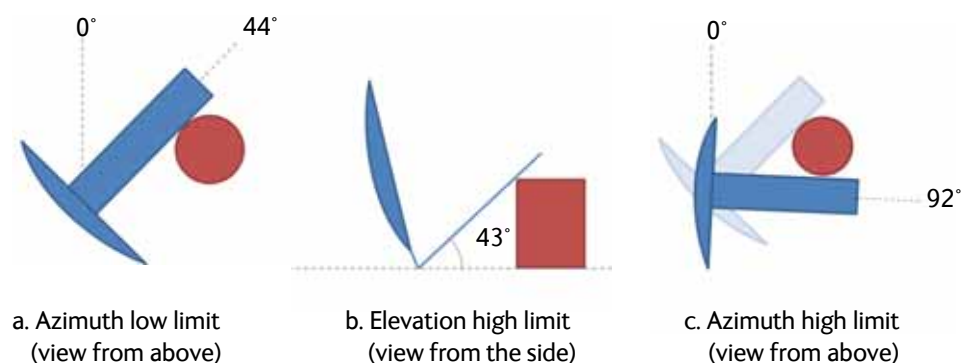

Figure 6-4: Boom blocking zones, example with cylinder-shaped blocking object
4. First define the boom blocking zones as follows (see Figure 6-4)